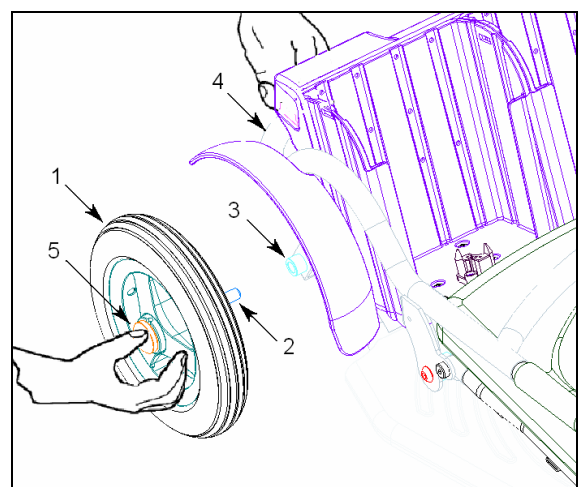

Fig 14
- It is not necessary to remove the rear wheels, but obviously Buddy will take up less room and fit better in some small car boots. With your fingers gripping the wheel, release the wheel by pressing the centre button with your thumb and pulling the wheel off. You will need to lift the mainframe up a few inches with your other hand to facilitate this (fig 14). Repeat for the other wheel.